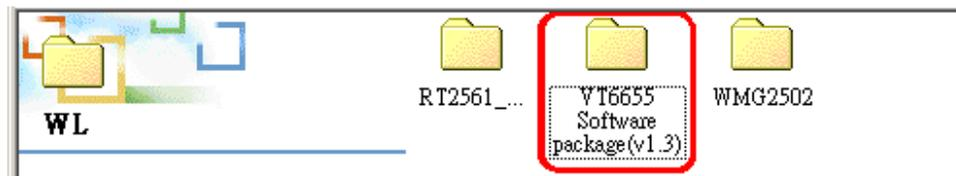

Figure 6-32: Access the VT6655 Folder
Step 4: Open the **VT6655 Software package(v1.3)** folder. See **Figure 6-32**.